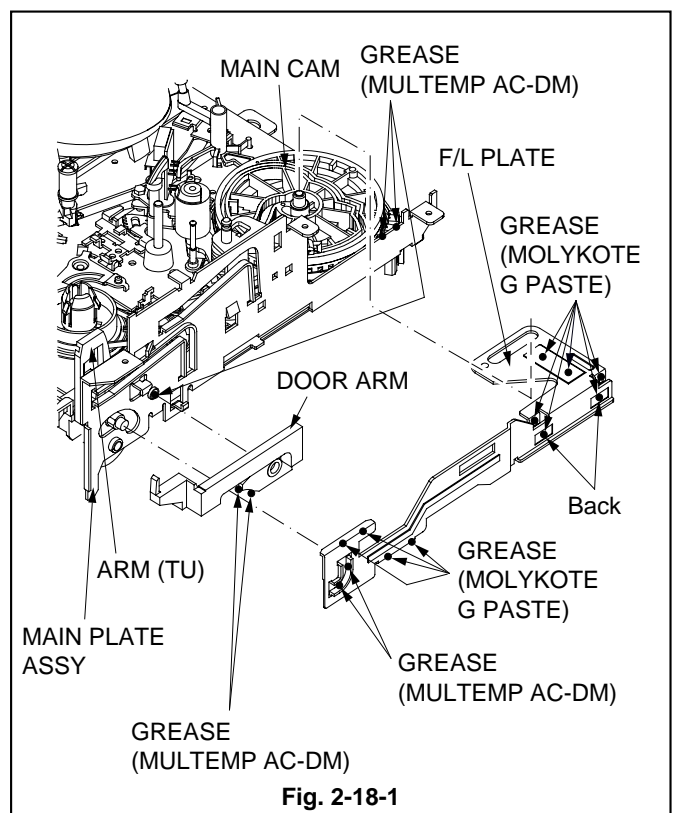

Fig. 2-18-1
1. Slightly lift the back of the F/L PLATE (MAIN CAM side) shown in the Fig. 2-18-1 to remove the F/L PLATE.
1. Apply GREASE (MULTEMP AC-DM)[859D055O90] to the points on the new F/L PLATE specified in the Fig. 2-18-1.
2. Apply GREASE (MOLYKOTE G PASTE) [859D055O50] to the points on the new F/L PLATE specified in the Fig. 2-18-1.
3. Apply GREASE (MULTEMP AC-DM)[859D055O90] to the points on the MAIN PLATE ASSY specified in the Fig. 2-18-1.
4. Apply GREASE (MULTEMP AC-DM)[859D055O90] to the points on the DOOR ARM specified in the Fig. 2-18-1.
7. Install the F/L PLATE shown in the Fig. 2-18-1 from the front side (ARM (TU) side).